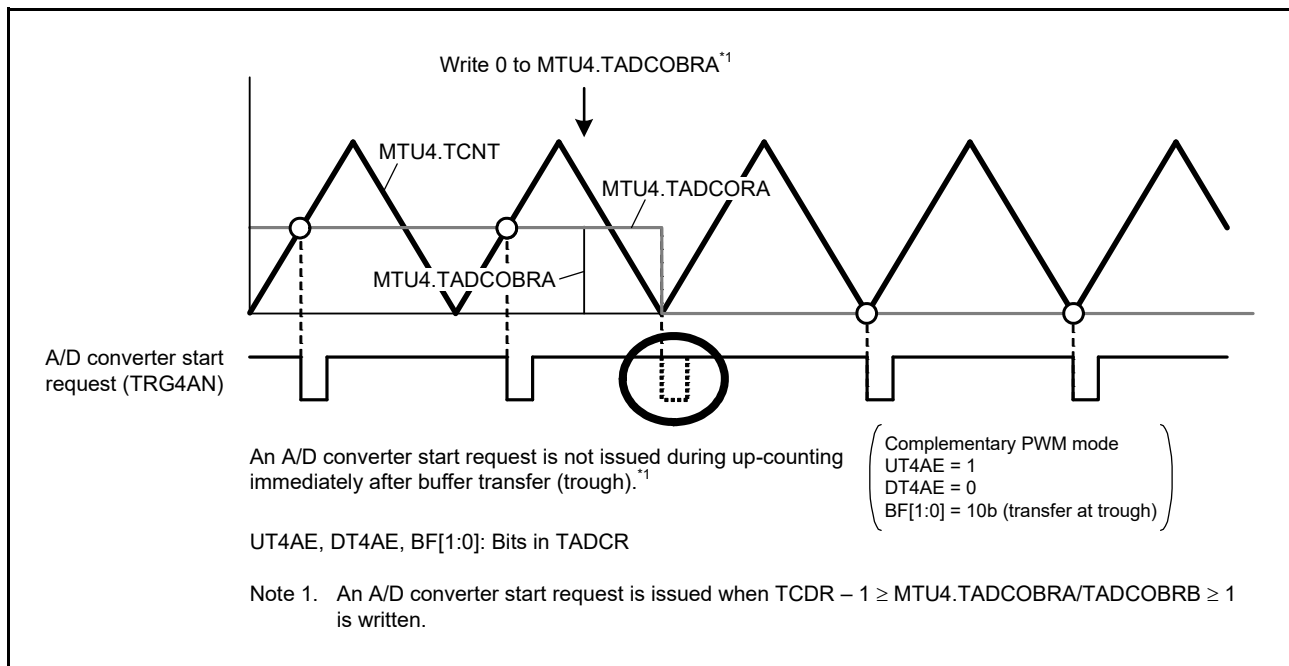

Figure 19.141 A/D Converter Start Request When 0 is Written to MTU4.TADCOBRA
- When data is transferred from a buffer register at the trough of the MTU4.TCNT counter while the MTU4.TADCOBRA and MTU4.TADCOBRB registers are set to 0 and the UT4AE and UT4BE bits in the MTU4.TADCR register are set to 1, no A/D converter start request is issued during up-counting immediately after transfer. Refer to Figure 19.141.